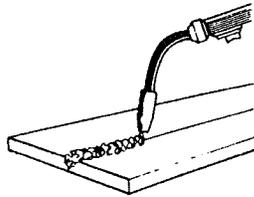

Figure 9. Flat Position Weld
1. The FLAT POSITION (Figure 9) is the easiest of the welding positions and is probably the one you have been using thus far. It is best if you can weld in the flat position if at all possible as good results are easier to achieve.